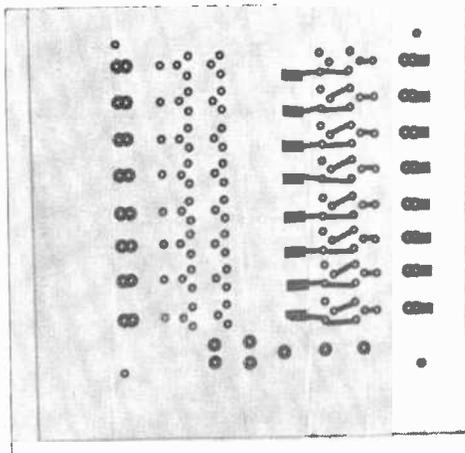

Fig. 2. Typical pattern on plastic sheet. Remaining lines must be added.
**Fig. 2.** Actual foil pattern (above) and component installation (left) for a 16-terminal tester. If you need only 16 terminals, top end circuits are removed and two leads taken from 16-terminal cable.
Begin your layout by pasting solder pads on the acetate, matching the dot sizes reasonably close as shown in Fig. 2. After all the pads are in place, put a piece of paper over the layout and use the back of a spoon to burnish them down.